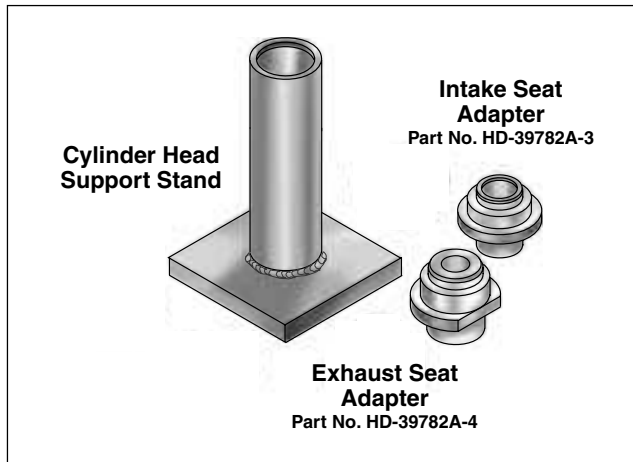

Figure 3-67. Cylinder Head Support Stand (Part No. HD-39782A)
- a. Insert sleeve of intake or exhaust seat adapter into tube at top of support stand. See Figure 3-67.